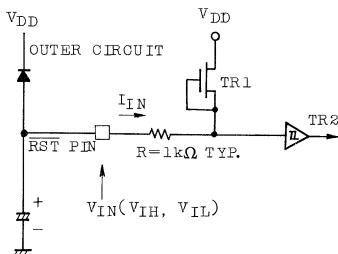

Fig. 3.2 (17) NMOS Version
The Circuit configuration of the $\overline{\text{RST}}$ input is shown in Fig. 3.2 (17) and (18), and the standard characteristics are shown in fig. 3.2 (19) and (20), respectively.